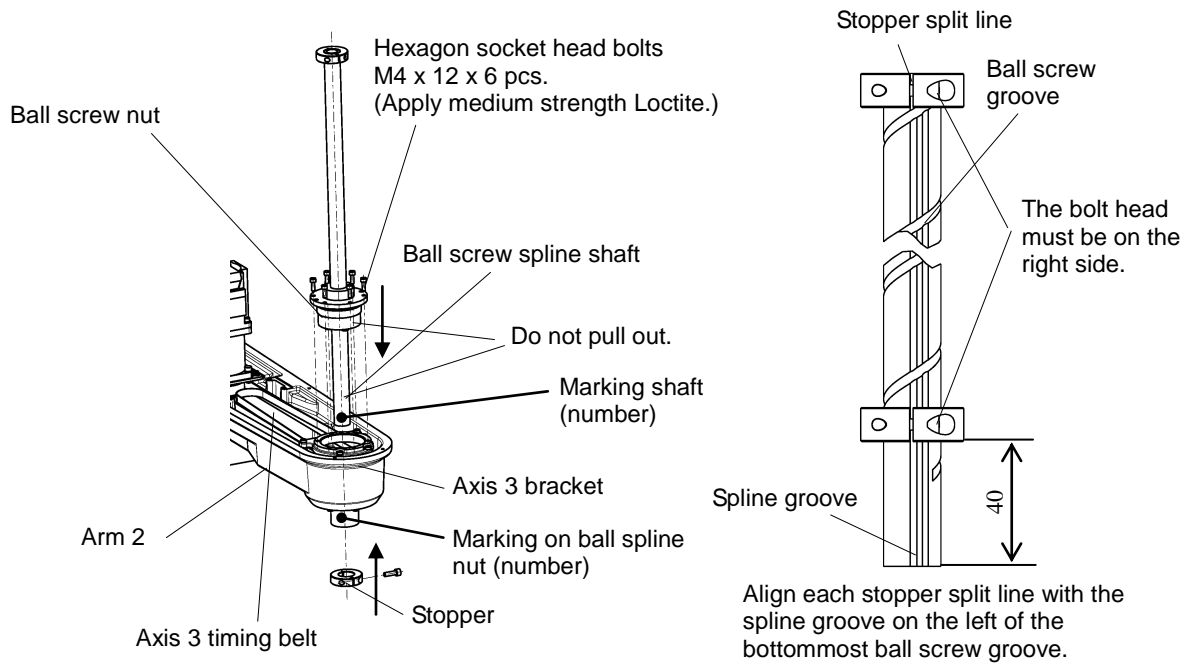

Fig. 4.49 Mounting ball screw spline nut (THL800, THL900, THL1000)
- 5) Temporarily tighten the axis 4 bracket to Arm 2 with four (4) hexagon socket head bolts (M4 x 16).
- 6) Secure the axis 3 nut pulley to the ball screw nut with four (4) hexagon socket head bolts (M5 x 20) and washers. Mount the upper stopper. For the stopper mounting position, see Fig. 4.49.